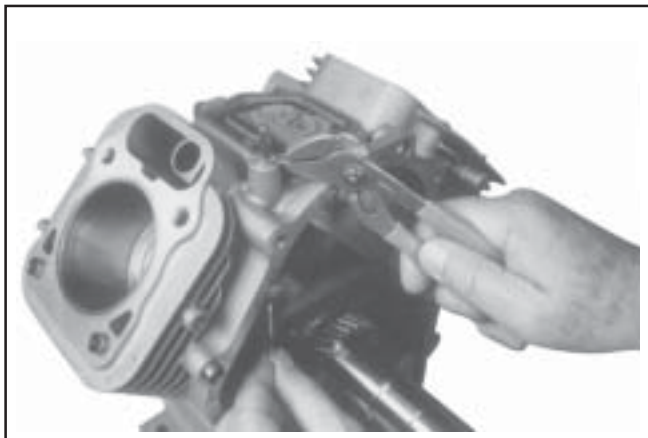

Figure 9-57. Removing Governor Cross Shaft Hitch Pin (6 mm Shaft Design).
1. Remove the hitch pin and plain washer, or the retainer and nylon washer, from the governor cross shaft. See Figures 9-57 and 9-58.